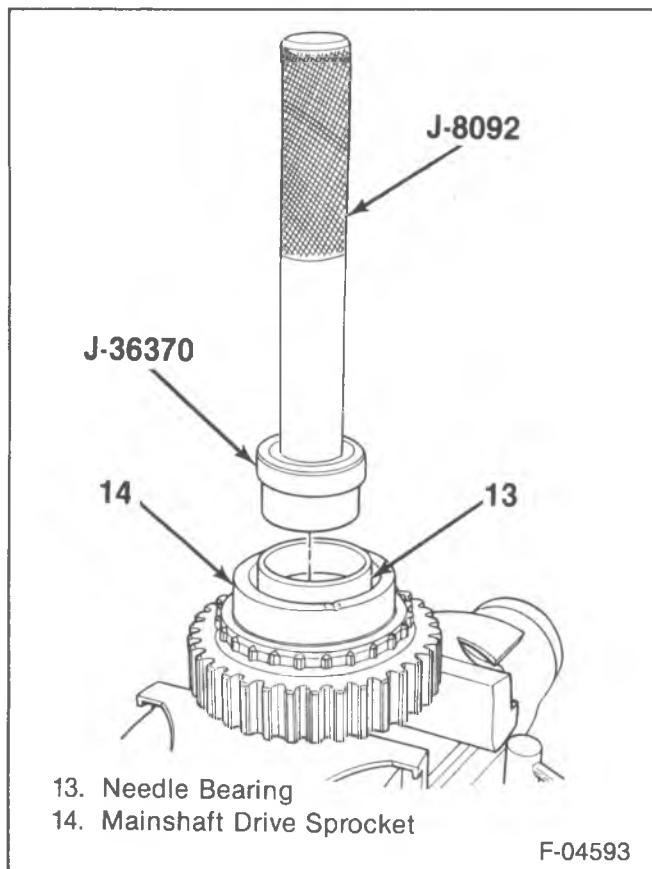

Figure 70—Installing the Needle Bearings to the Main Drive Sprocket
Install or Connect (Figures 70 through 74)
1. Needle bearing (13) to the main shaft drive sprocket (14) (figure 70).
2. Needle bearing (13) to the rear case half (57).
3. Needle bearing (40) to the input gear (41).
- Use J-36373 and J-8092 to drive the needle bearing into the input gear (41).
4. Bearing (21) to the front case half (29).